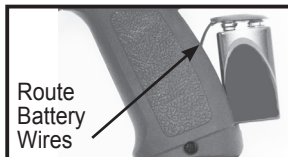

Figure 6: Install 9 Volt Battery
3. Insert the battery into the grip with the battery clip at the top, and wires routed as shown (Figure 6).